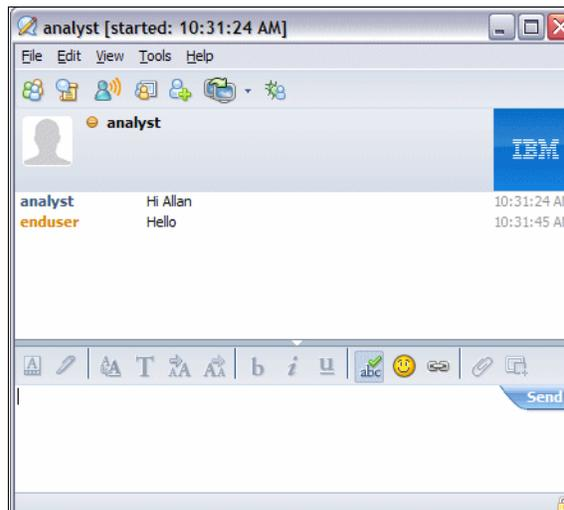

Figure 7-15 Sametime session
7. Figure 7-15 displays the user Sametime connect session.